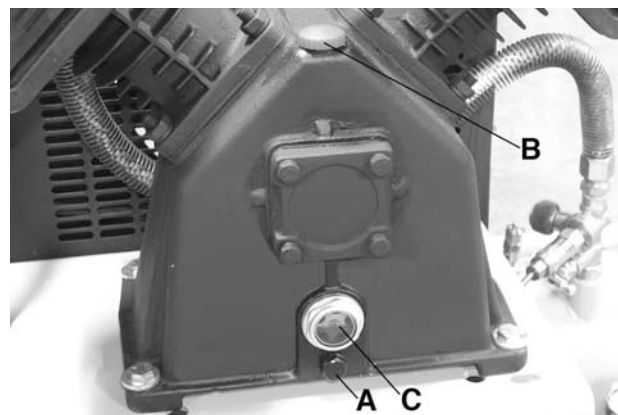

FIGURE 7
To change oil, oil must be drained from the crankcase by removing oil drain bolt (A) Fig.7. Drain oil and replace oil drain bolt. To fill the crankcase with oil, first unscrew and remove oil fill cap (B), pour air compressor oil (approx. 900ml of SAE 30 weight non-detergent oil) into oil opening until the oil level reaches the red dot at the centre of the oil sight glass (C). Reinstall the fill cap (B).